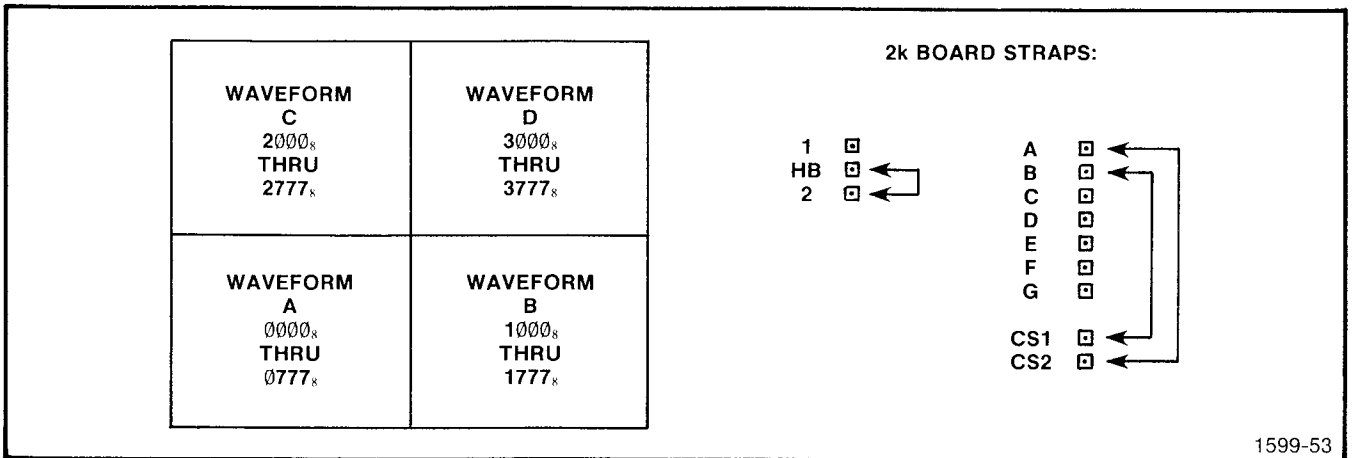

Fig. 3-9. 2 k Semiconductor Memory without Readout.
**2 k Semiconductor Memory Without Readout.** This option allows the 2 k Semiconductor Memory to store four waveforms, but eliminates the readout and message storing capability. The waveforms occupy the same addresses as in the 4 k memory. Fig. 3-9 shows strap location and address allocation.